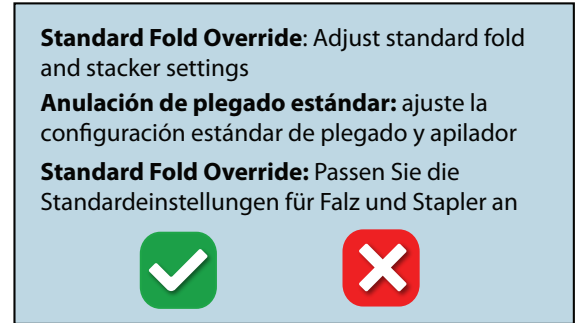

Fig. 39
2. “Standard folds will be modified from factory settings” warning will be displayed (Fig. 39). Press the green box with the check to continue or the red box with the X to exit and return to the operator screen.